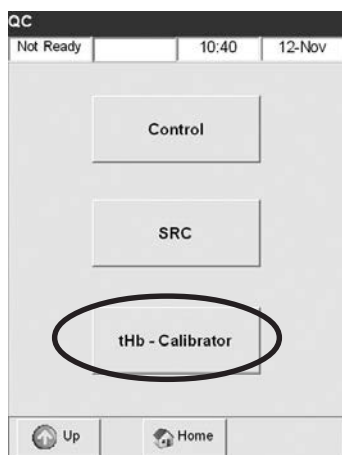

Fig. 2-13 Select tHb-Calibrator
- In the **<QC Manager>** menu, select **<tHb-Calibrator>** (Fig. 2-13).